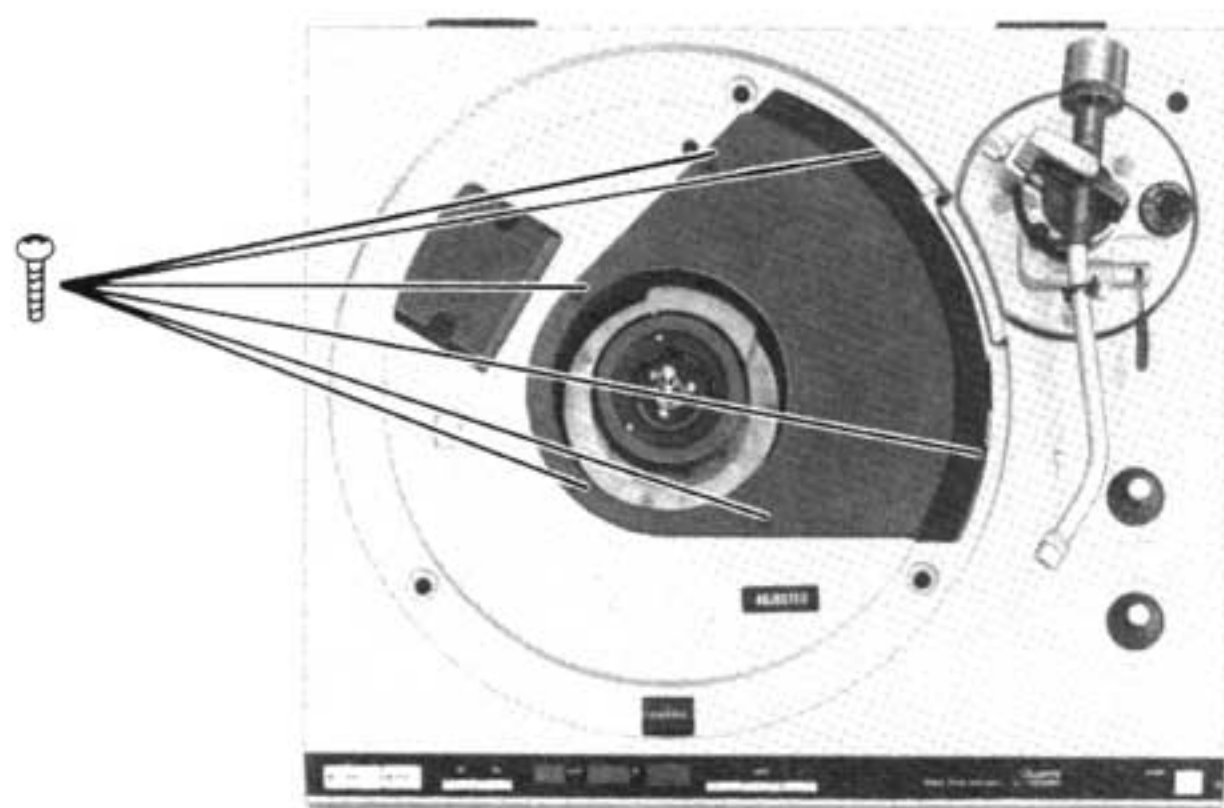

Fig. 8
10. Remove the 6 screws from the panel cover (Fig. 8).